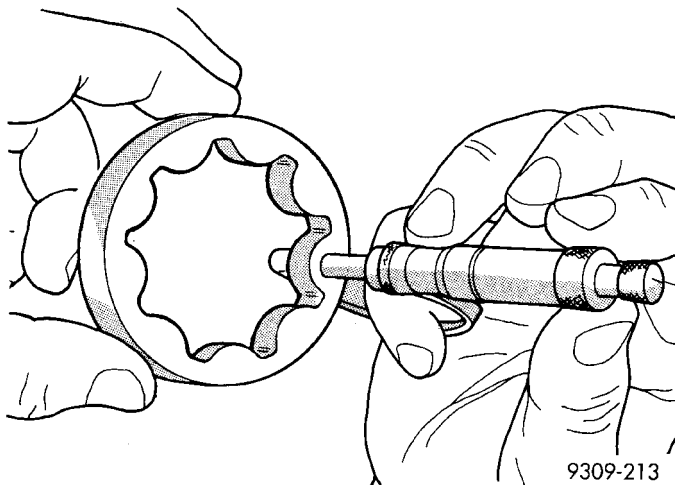

Fig. 102 Measuring Outer Rotor Thickness
(3) Measure thickness and diameter of outer rotor. If outer rotor thickness measures 7.64 mm (0.301 inch.) or less (Fig. 102), or if the diameter is 79.95 mm (3.148 inches) or less, replace outer rotor.